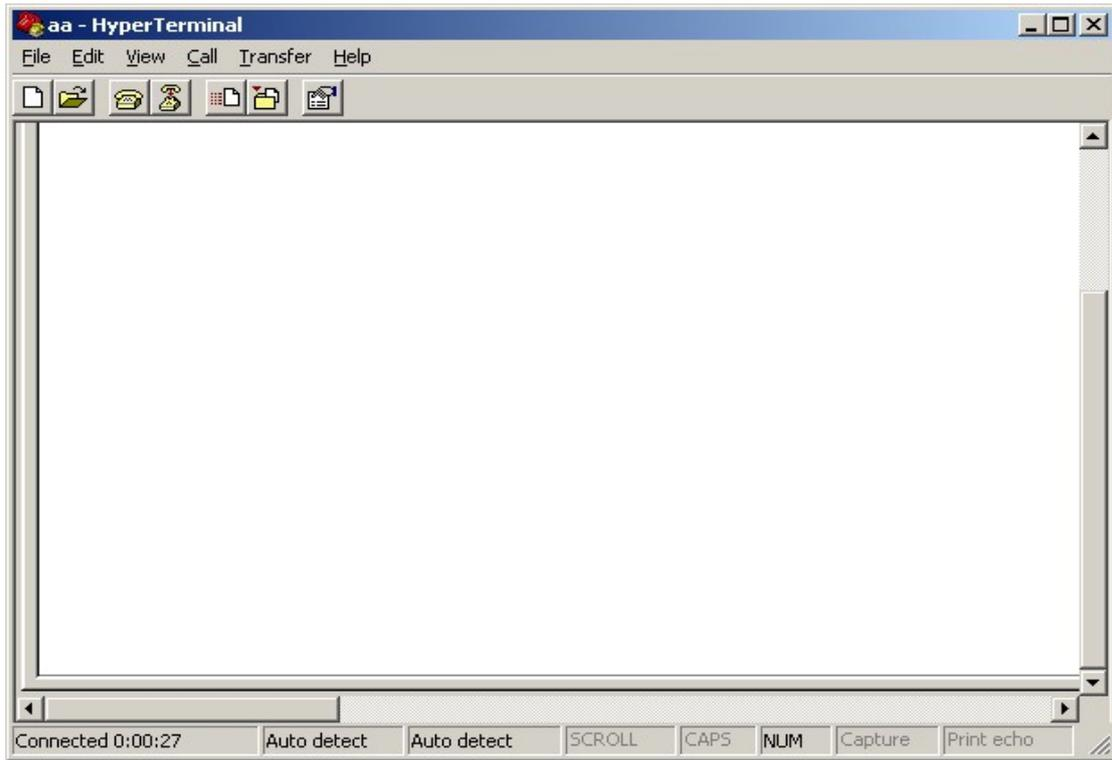

Fig. 3.1.4 Hyper Terminal Interface
Step 4: Serial port parameters setup. Set the serial port parameters as the following setup: Bits per second: 115200, Data bits: 8, Parity: None, Stop bits: 1, Flow control: None. Press “OK” after finish, the Hyper Terminal interface like Fig. 3.1.4 will appear
“Communications”→ “Hyper Terminal”→ “aa.ht”, the Hyper Terminal interface in Fig. 3.1.4 will appear.